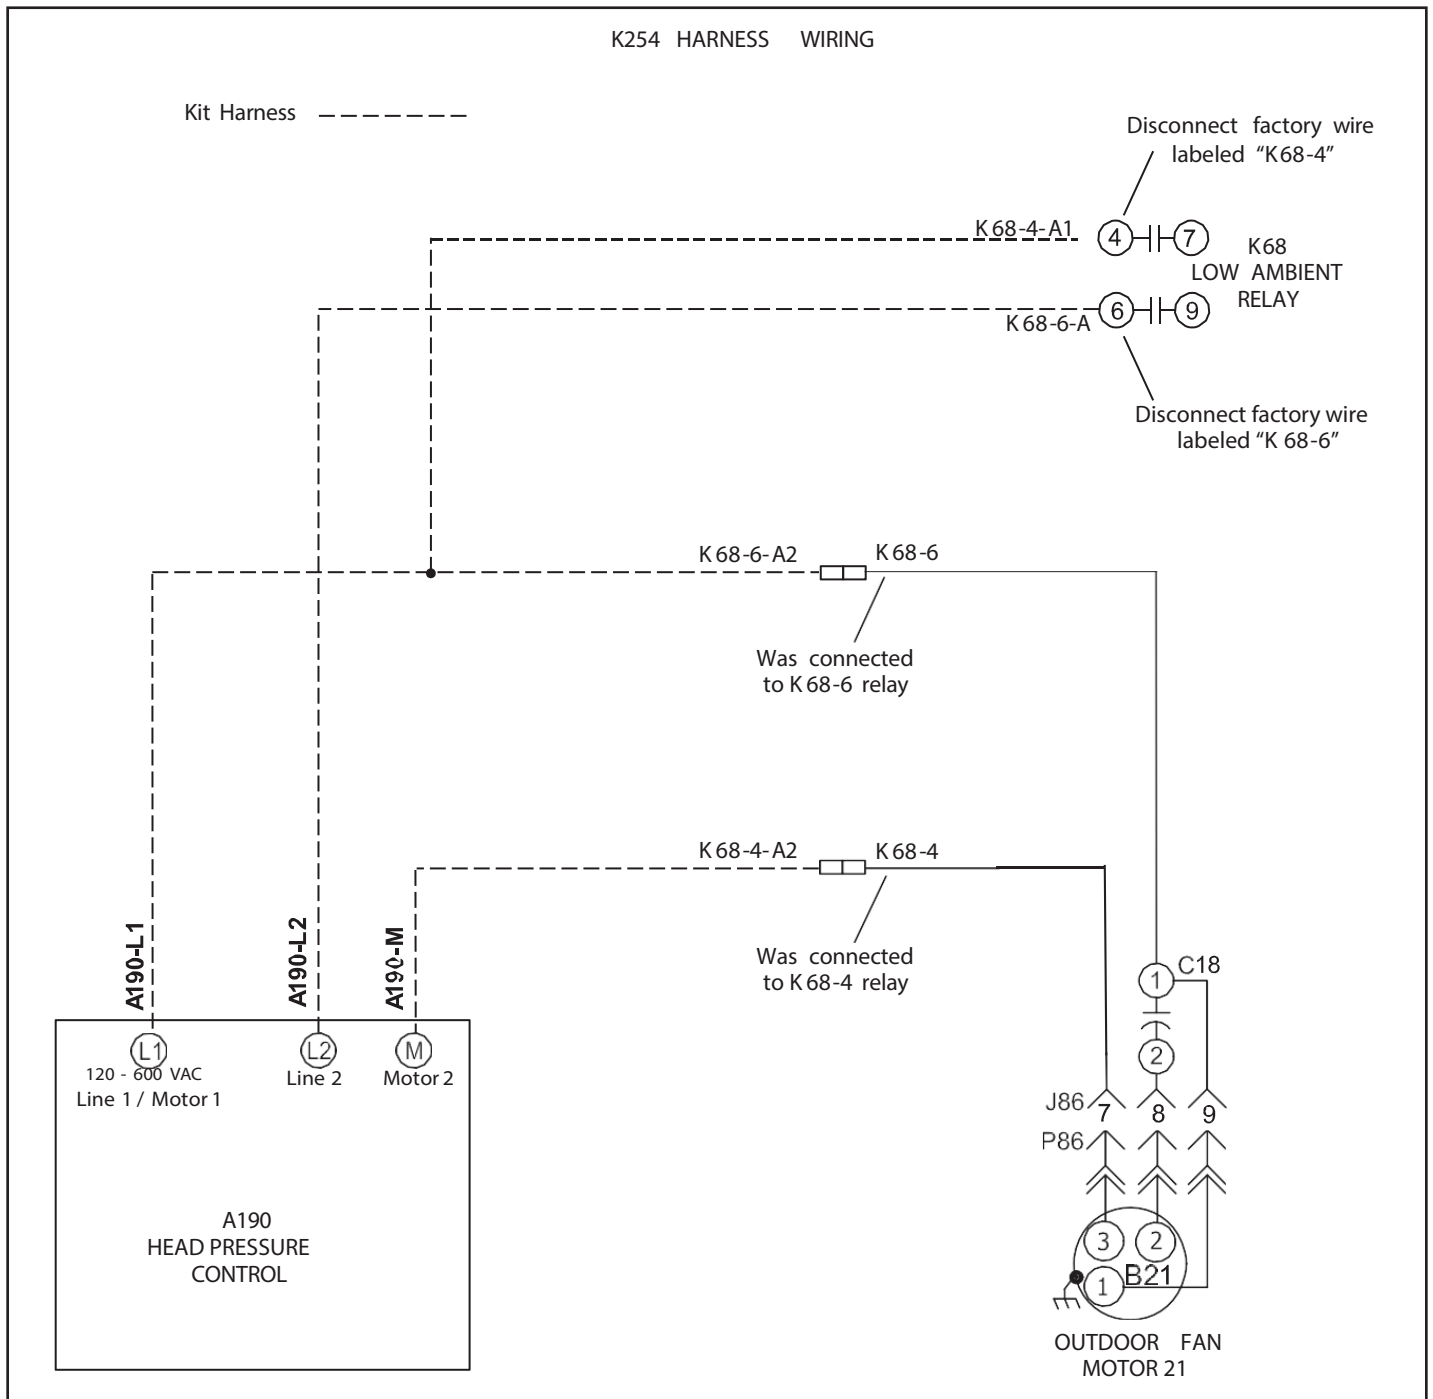
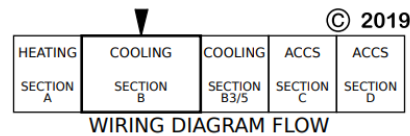
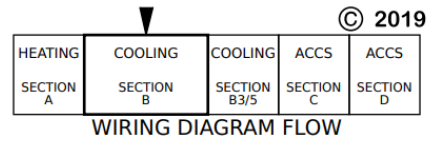

FIGURE 5
FIGURE 7
FIGURE 8
- 1 - Disconnect factory wires to K68 terminals 4 & 6. Reconnect these wires to the kit harness as shown in FIGURE 5 or FIGURE 6.
- 3 - Make the rest of the K68 harness connections as shown in FIGURE 5 or FIGURE 6. Refer to the diagrams in FIGURE 7 or FIGURE 8.